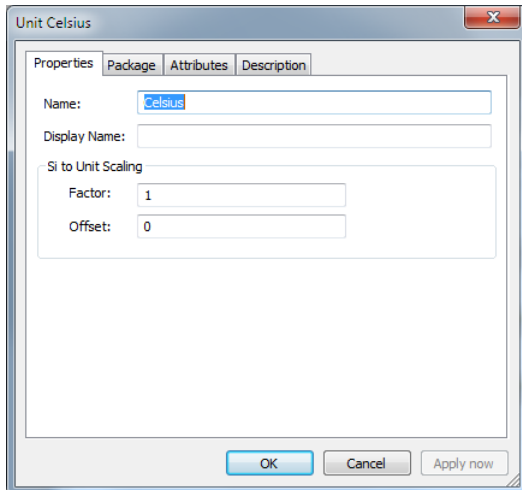

Figure 4-4 Celsius unit
- A "Celsius" unit is created (see Figure 4-4) and is referenced in the compu method